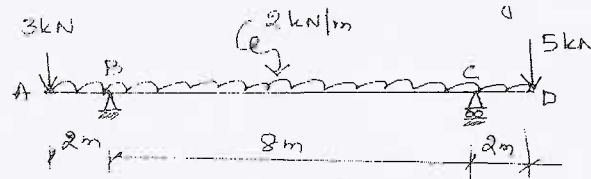

Fig.Q.4(c)
c. Draw the shear force and bending moment diagram with salient values for the overhanging beam loaded as shown in Fig.Q.4(c). Also locate the point of contra flexure, of any (14 Marks)